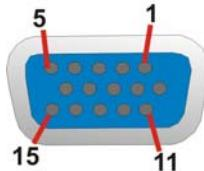

Figure 3-23: VGA Connector
**CN Pinouts:** See Figure 3-23 and Table 3-24